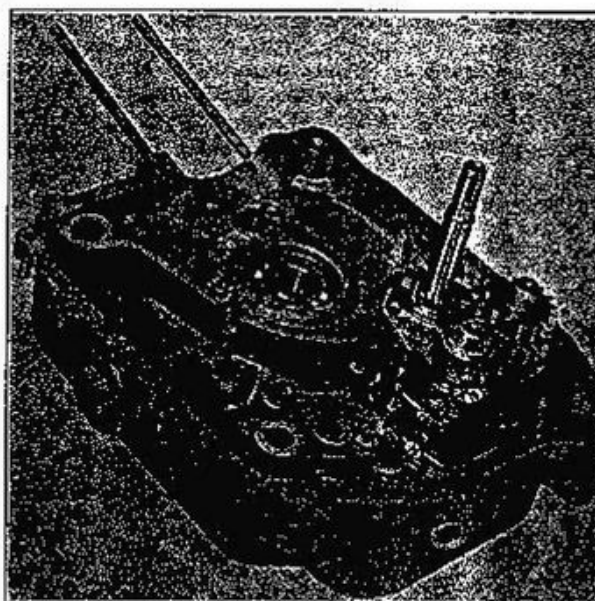

Figure 4D-36A. 1973 and Later Transmission Gears Assembled in Right Crankcase in Neutral Gear
Insert shifter fork (6) in shifter clutch (15) with shoulder on fork away from third gear (18). Simultaneously install mainshaft assembly (5) in right crankcase bearing (31) and shifter fork (6) on shifter cam (14) as shown in Figure 4D-36. Tap mainshaft into position if necessary. Install mainshaft low